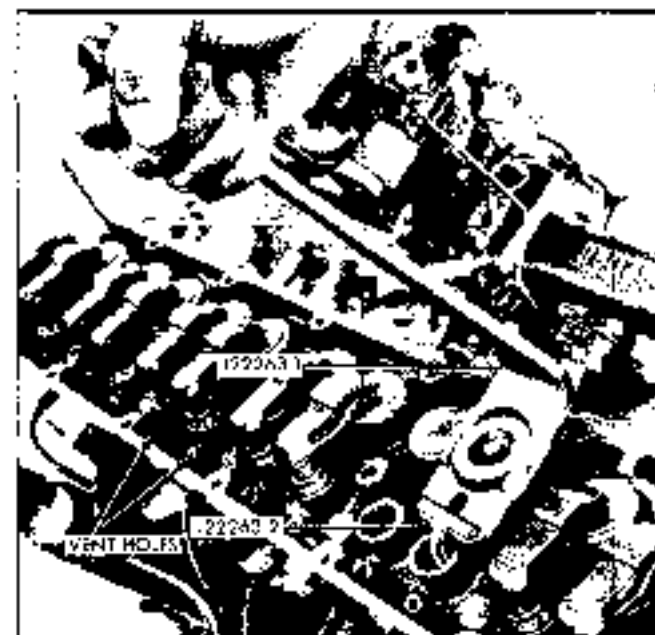

Fig. 6-24 Valve Spring Removal
5. Hold J 22263-2 in place and install fork end of compressor J 22263-1 on J 22263-2 (Fig. 6-24).